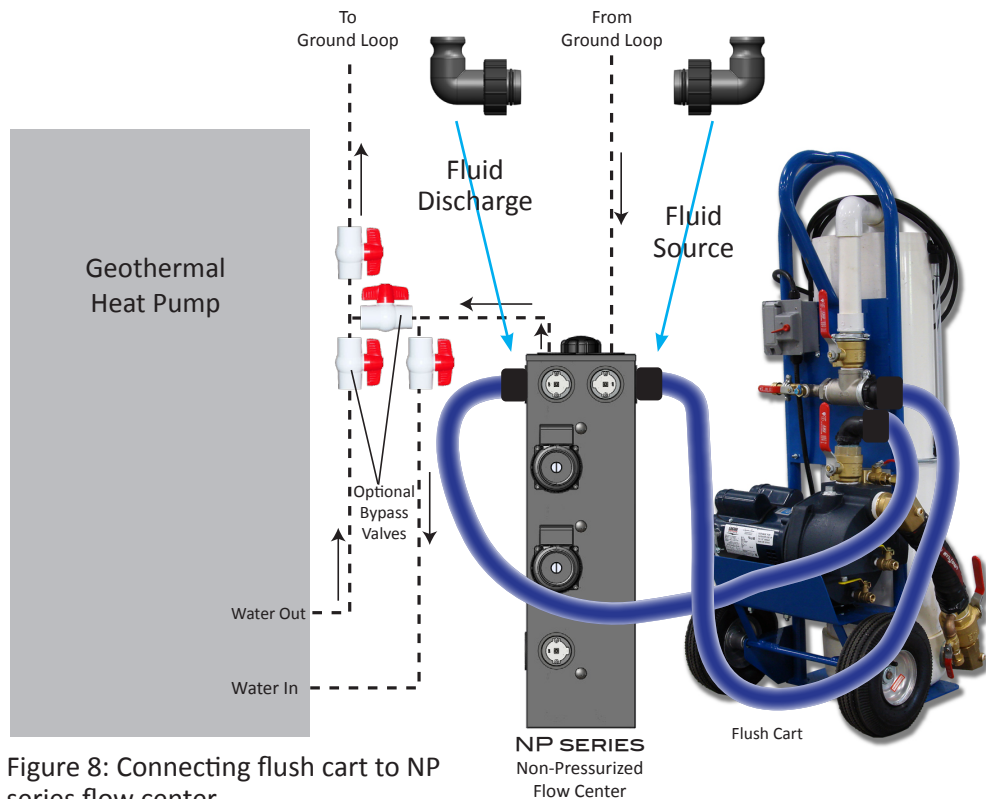

Figure 8: Connecting flush cart to NP series flow center
3. Attach the flush cart to the 3-way valves using Flo-Link double O-ring X 1" CAM fittings (Figure 8). Applying a small amount of lubrication to the O-rings to allow the fittings to be installed and removed with little force (see note on next page). The plastic nuts should be hand-tightened only.